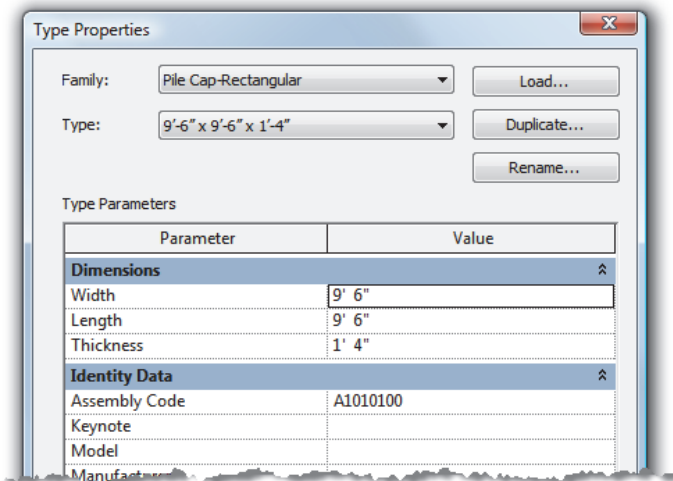

FIGURE 7-5.8 Isolated footing type properties
37. Adjust the *Width*, *Length* and *Thickness* parameters accordingly; make them match the new type name you just created. See Figure 7-5.8.